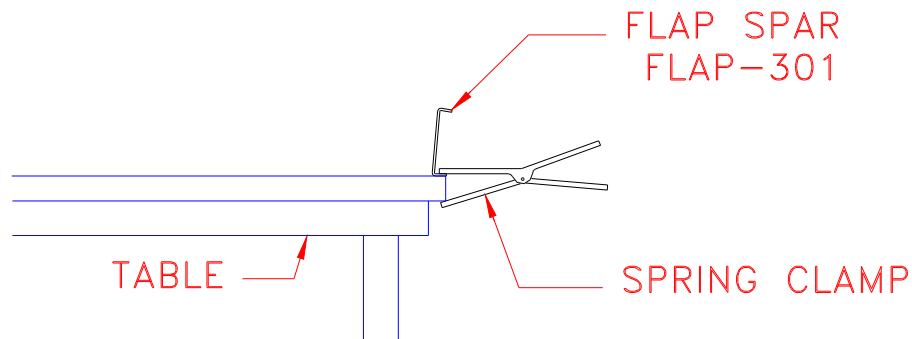

Figure 7.2.2
- 3) Clamp the Spar to the edge of your table as in Figure 7.2.2.